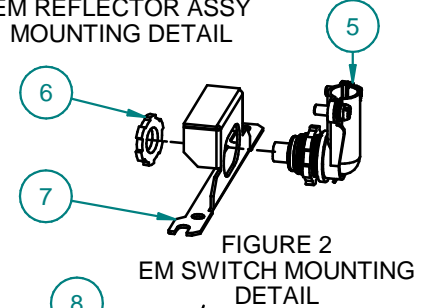

FIGURE 2
6. Squeeze two torsion springs (2) together and insert ends into two brackets (3). Make sure hole in the reflector (4) lines up with the placement of the EM switch (5). Loosen the nut (6) to adjust the position of EM Switch (5) in the bracket (7) to line up with reflector cutout (4) if required.(SEE FIG. 2)